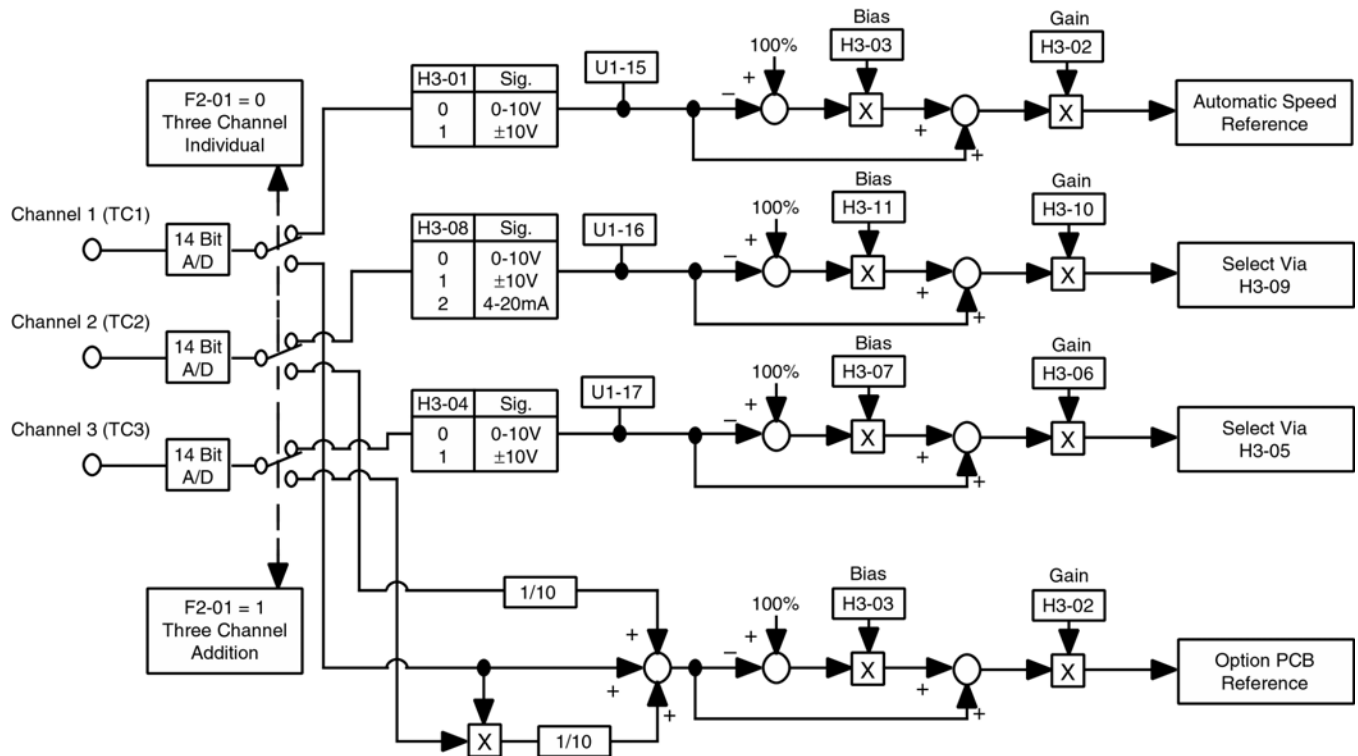

Figure 4. AI-040 Block Diagram
- 7. **Adjustment.** There are no adjustments to be made on the AI-040 option; however, the drive will have to be programmed for the input requirement(s) of the remote device and the reversing or non-reversing requirement of the specific application. Refer to Figures 4 and 5, and Table 3.
Figure 4 shows two possible modes of operation for the AI-040 option board when installed in the drive. These modes are selected by drive parameter F2-01 (Input Selection). When F2-01 is set to "0", 3-channel individual mode is selected. In this mode, the AI-040 option replaces the analog inputs on the drive's main control board. See Table 3.